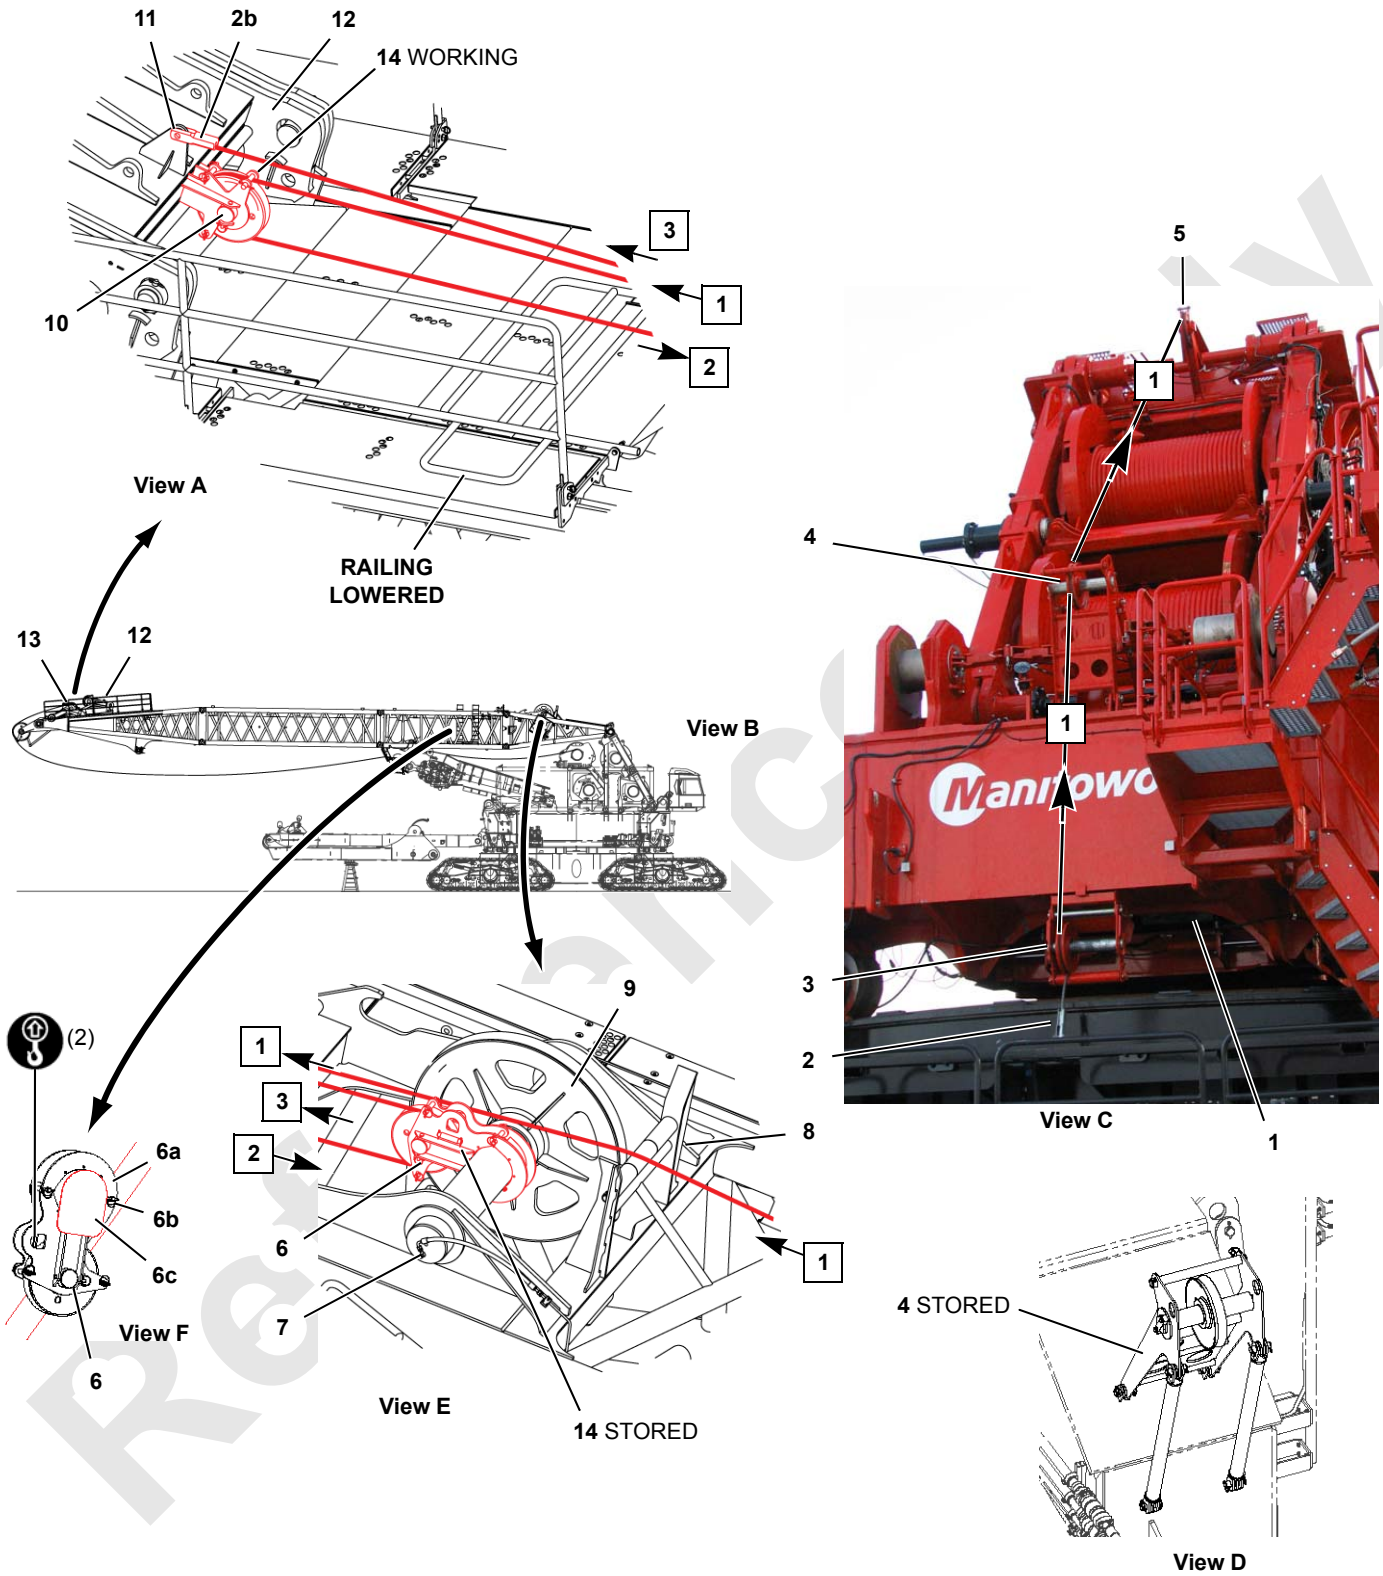
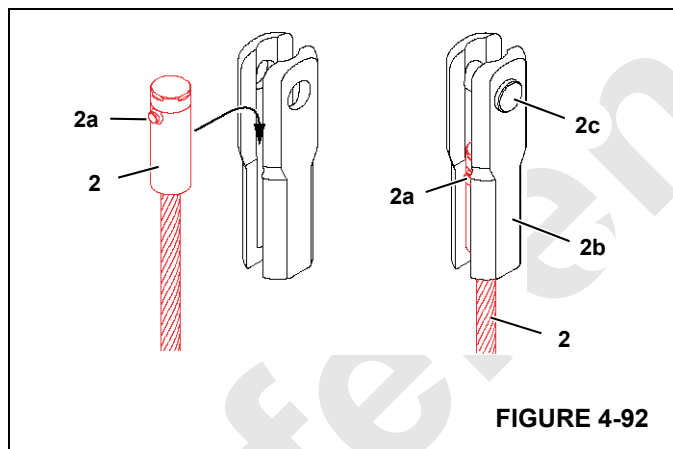

FIGURE 4-91
FIGURE 4-92
Legend for Figure 4-91 and Figure 4-92
See Figure 4-91 for the following steps.
- Over shaft (7, View E) in the mast butt. **Do not route the rigging line over sheave (9).**
- Over guide sheave (6, View E) to lug (11, View A) on equalizer (12).
10. Attach the rigging line to lug (11, View A) with button socket (2a, Figure 4-92).
11. Remove pin (14, View E) from storage on wire rope guide (6) and install the pin on guide sheave (10, View A).
16. Stop when equalizer (12) is over rails (15, View C) on the mast insert and rails (16) on the mast butt.
17. Lower the equalizer onto the rails. The hooks on the front end of rails (15) will prevent the equalizer from rolling forward.
21. Move wire rope guide (4, View D) to the storage position on the right end of the front roller carrier (see Figure 4-91, View D).